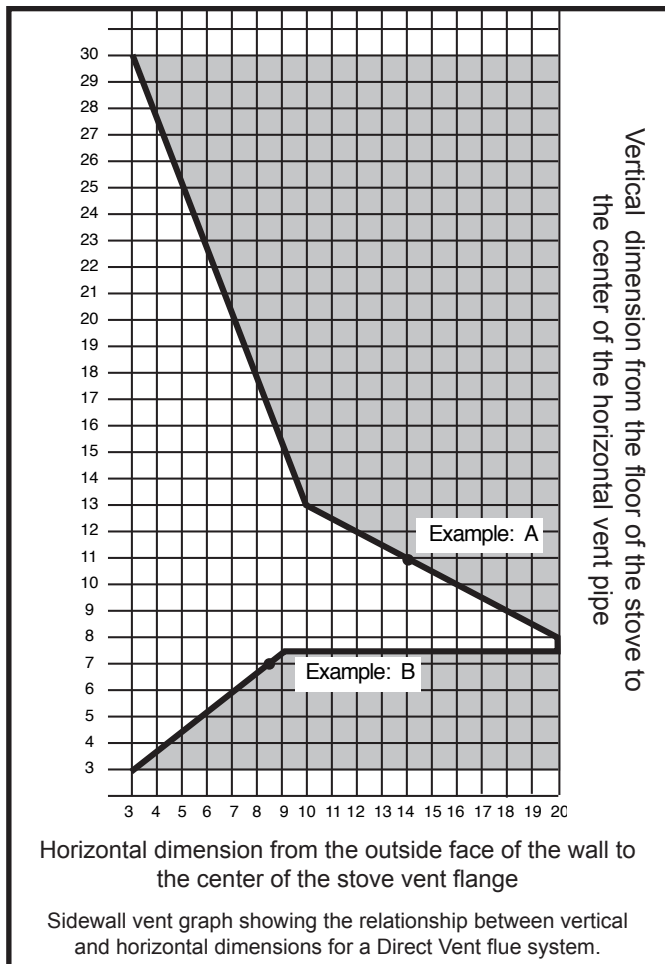

Fig. 8 Sidewall venting graph. (Dimensions in feet)
1. Determine the height of the center of the horizontal vent pipe exiting through the outer wall. Using this dimension on the Sidewall Vent Graph (Fig. 8), locate the point intersecting with the slanted graph line.